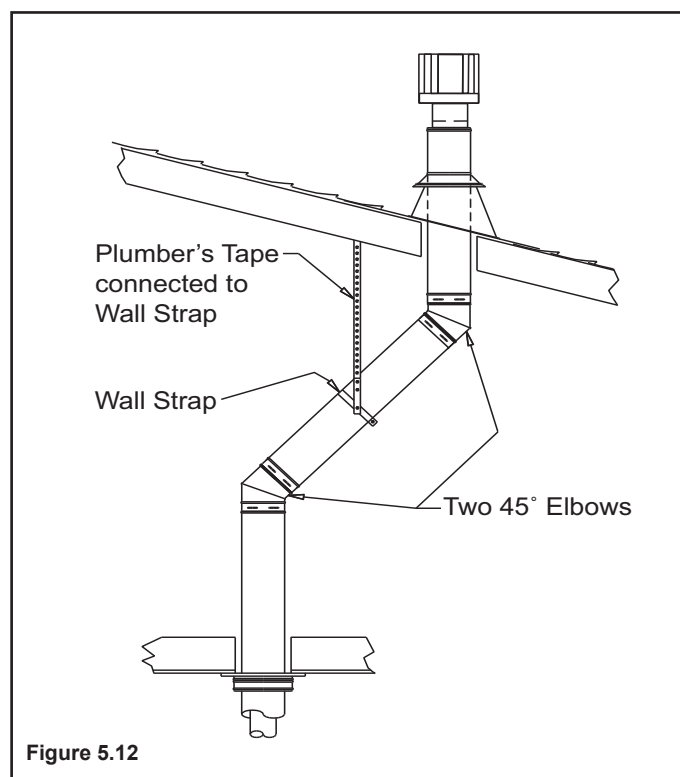

Figure 5.12
Set the gas appliance in its desired location. Drop a plumb bob down from the ceiling to the position of the appliance flue exit, and mark the location where the vent will penetrate the ceiling. Drill a small hole at this point. Next, drop a plumb bob from the roof to the hole previously drilled in the ceiling, and mark the spot where the vent will penetrate the roof. Determine if ceiling joists, roof rafters, or other framing will obstruct the venting system. You may wish to relocate the appliance, or to offset, as shown in **Figure 5.12** to avoid cutting loadbearing members. When location is determined, drill small hole.
- (1) If an offset is necessary in the attic to avoid obstructions, it is important to support the vent pipe every 3 ft (914mm) to avoid excessive stress on the elbows, and possible separation. Wall straps are available for this purpose, **Figure 5.12**, page 15.
- (2) Whenever possible, use 45° elbows, instead of 90° elbows. The 45° elbow offers less restriction to the flow of flue gases and intake air.